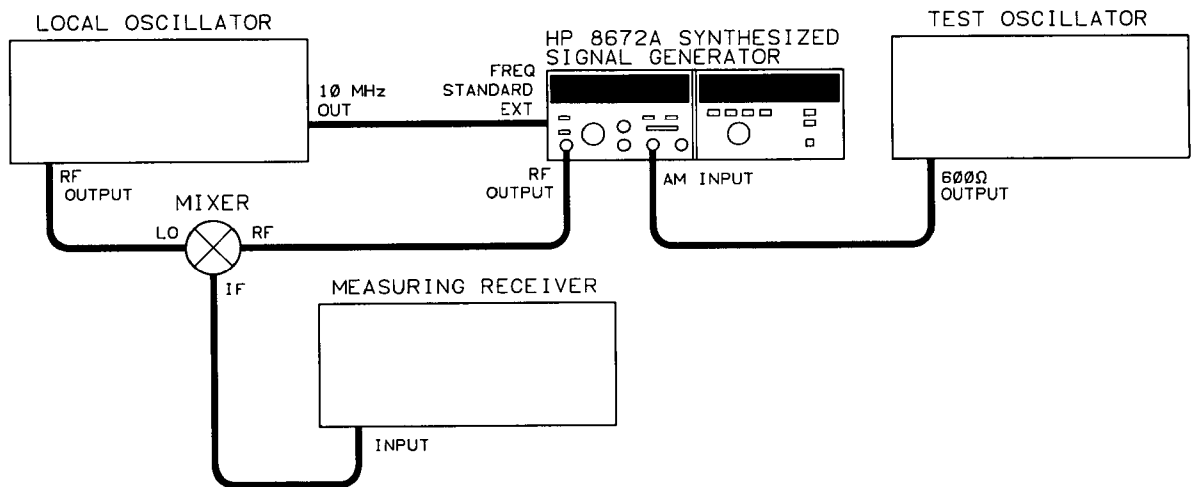

Figure 4-17. Incidental FM Test Setup
1. Connect the equipment as shown in Figure 4-17.